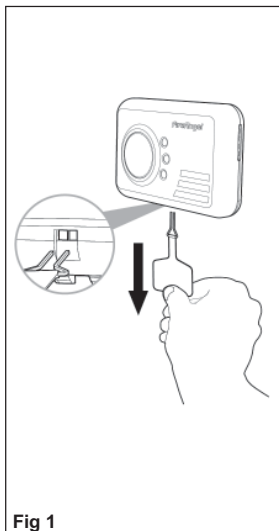

Fig 1
- Your detector comes complete with an integrated power pack that will provide power for its entire operational life. To activate the power pack you need to pull the disabling tab (see Fig 1). This will in turn pull out the metal disabling clip, which is attached to the end of the tab, from the disabling socket which is situated on the underside of the detector. Retain the disabling tab for future use.